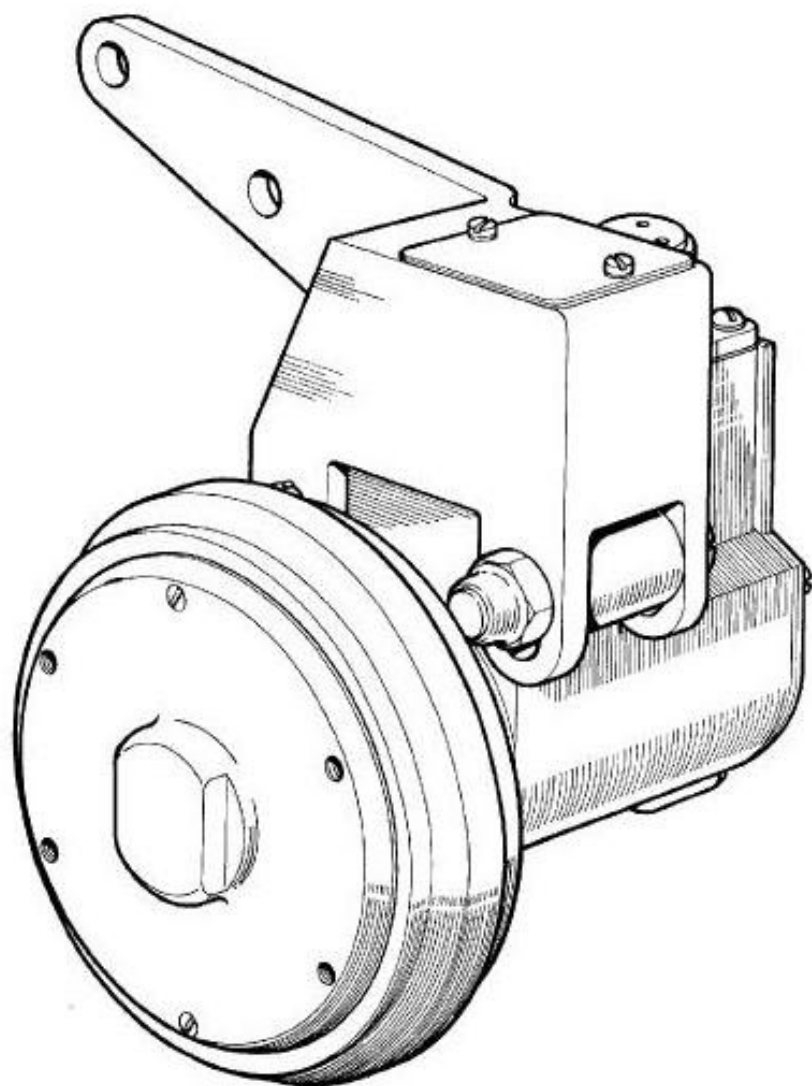

Fig. 1 Generator and flywheel assembly
2. The assembly comprises a small d.c. generator mounted in a case, and driven via the flywheel assembly (*fig. 1*). A bracket attached to the case forms the mounting of the assembly to the aircraft.